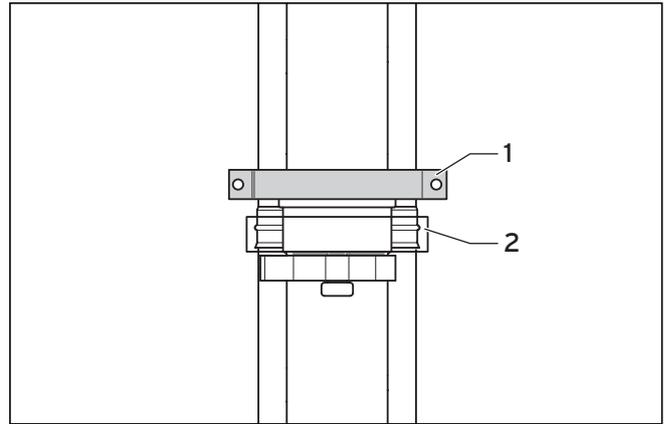

Fig. 2.26 Shortenable extension with external fastening clamp
- Install an additional fastening clamp immediately above the shortenable extension (1), as shown in Fig. 2.26.